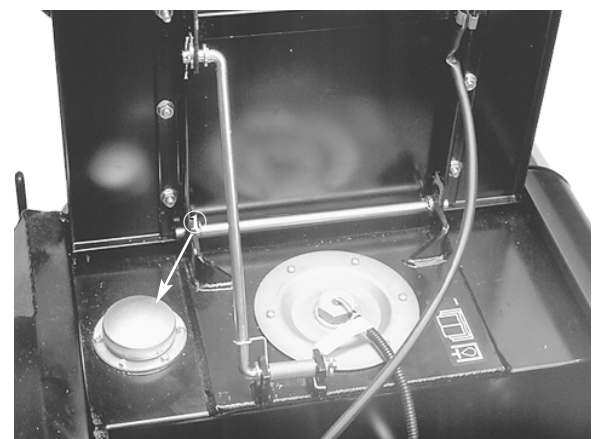

Figure 17
2. Raise the seat and support it in an upright position with the seat support rod (Fig. 17)